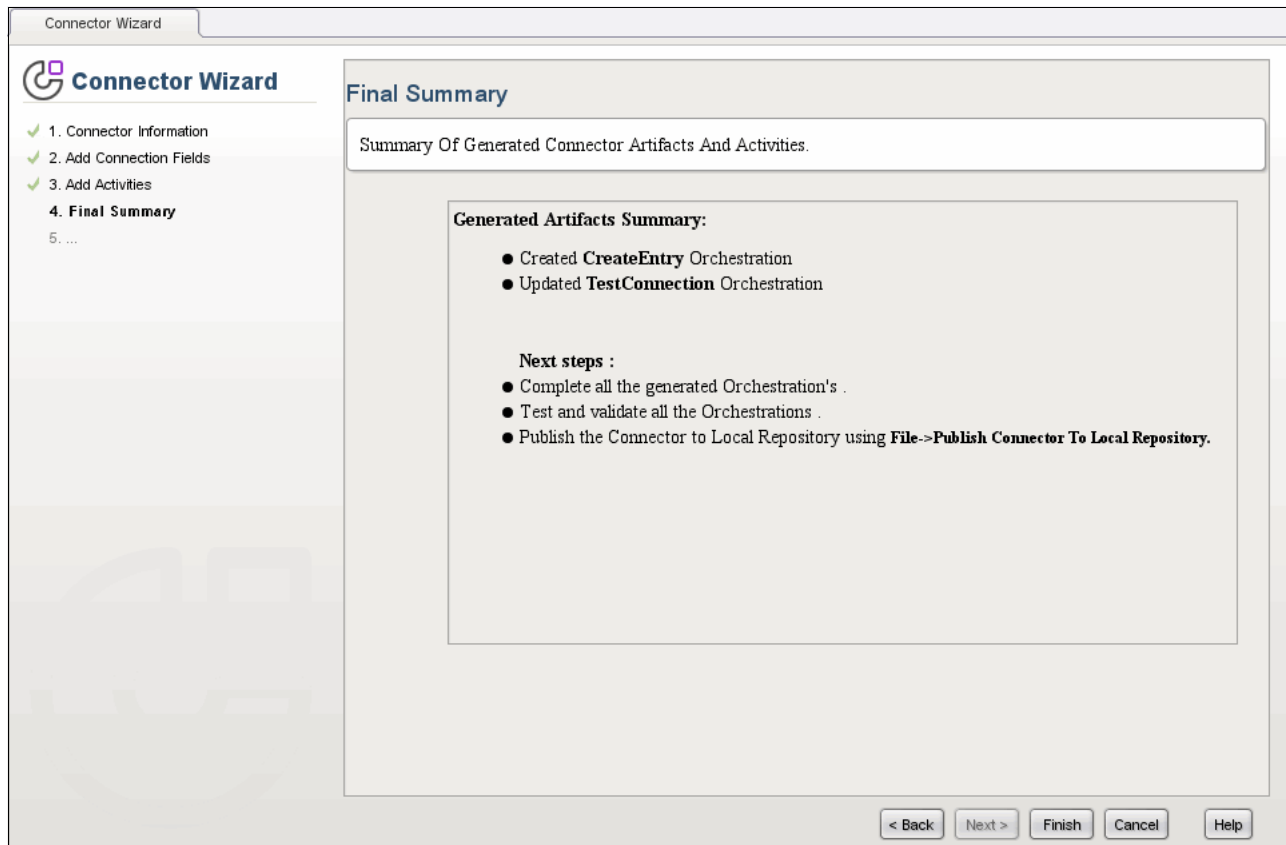

Figure 8-10 Google Calendar connector Final Summary page
9. The Final Summary page gives the summary of the orchestrations that were created and information about the next steps required for the connector development, as shown in Figure 8-10 on page 336.